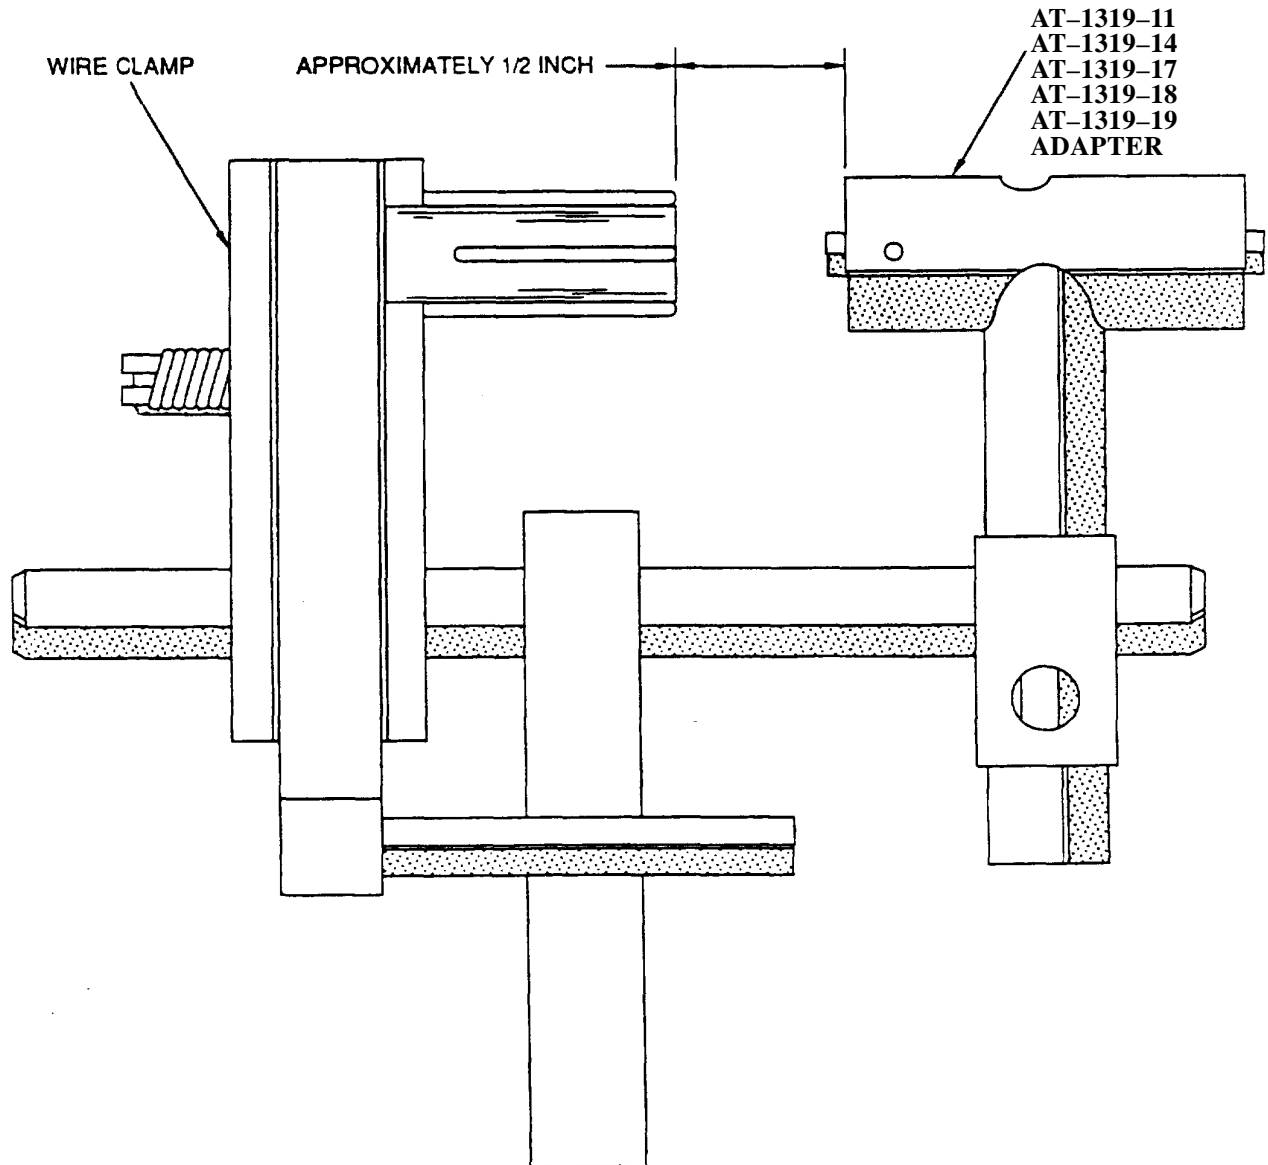

Figure 55. Holding Fixture and Adapter Setup
- b. Set up holding fixture and adapter as shown (Figure 55).